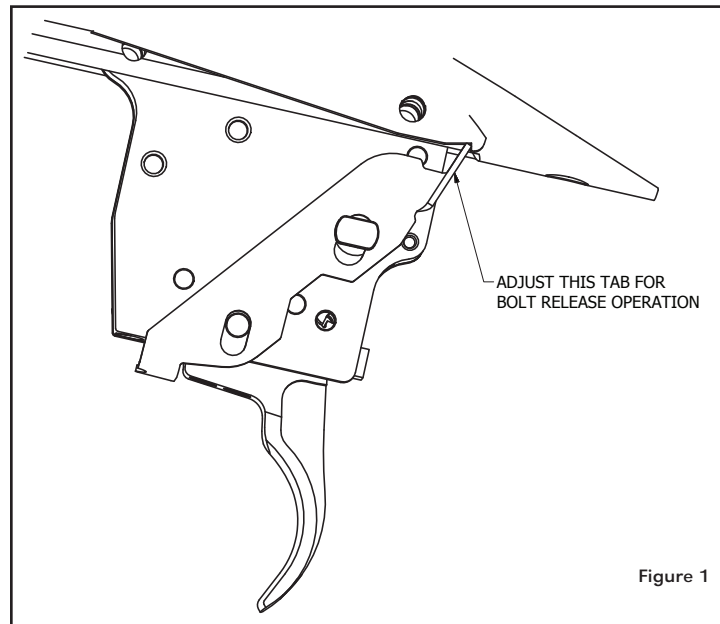

Figure 1
10. If binding is present use needle nose pliers to slightly bend the tab on the bolt release to align the tab with the notch in the bolt release rocker lever (See Figure 1).